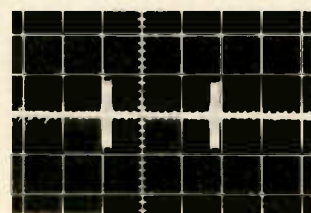
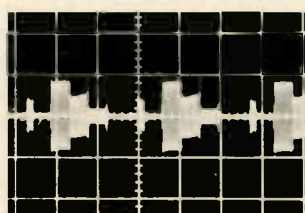

Figure 18 With scope connected to pin 1 of the comb-filter board, the bar-sweep pattern should show only the 3.56MHz bar.
Figure 19 With scope at the same pin 1, the chroma-bar sweep pattern should be as shown.
4. Check the chroma only signal at pin 1 (CO) on the comb filter PC board. The Bar Sweep pattern should appear as that shown in Figure 18 with only the 3.58MHz bar being present. The Chroma Bar Sweep pattern should appear with all bars present as shown in Figure 19.